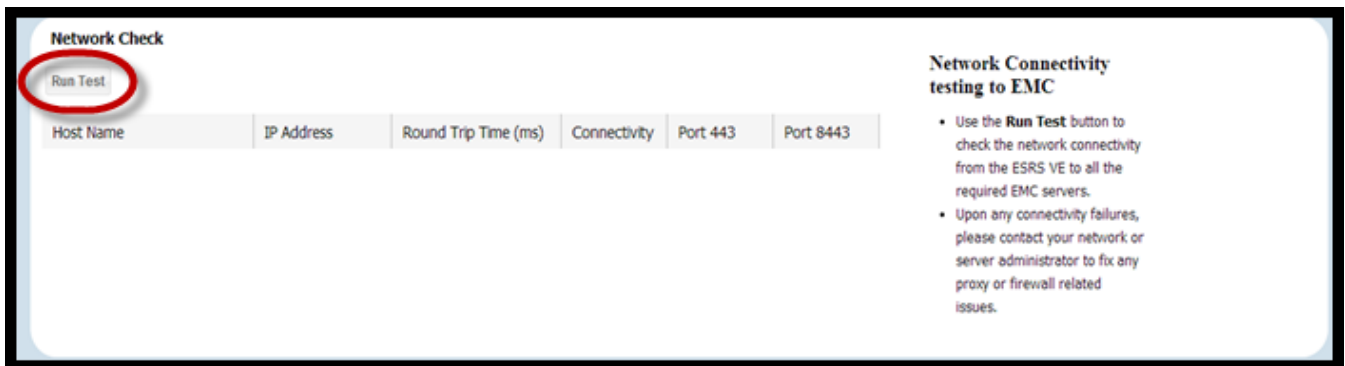

Figure 78 Network Check
1. Click the **Run Test** button, as shown in Figure 78 on page 57.